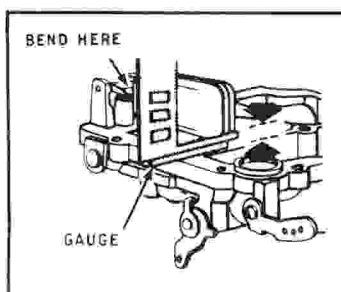

Figure 1
H. Some late model carburetors will contain an "S" shaped pump connector link (14). Reinstall with upper end, through hole in pump lever, facing away from center of carburetor. Lower end must face center of carburetor through hole in pump plunger stem.
A. Float Level: (Fig. 1)